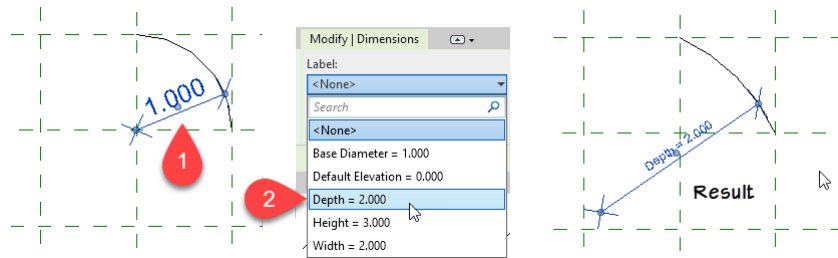

Figure 15—After aligning and locking endpoints, apply the Depth parameter to the radius; Did it flex as expected?
12. Add the radius and label it with the Depth once again (see Figure 15).